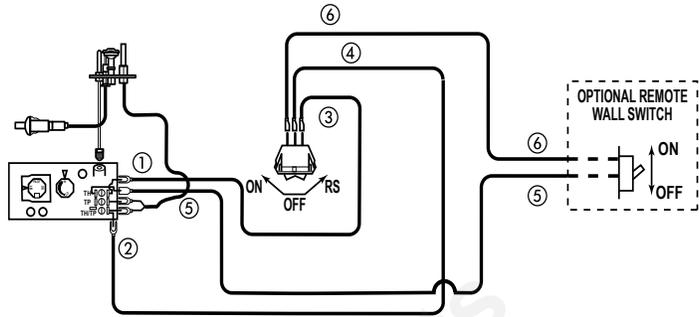

Figure 31 -
A remote wall switch and up to fifteen (15) feet of 18 Ga. wire may be used with this appliance. Attach the wall switch in a junction box at the desired location on the wall. *Figure 31*. Do not extend beyond the wall switch wire length provided.